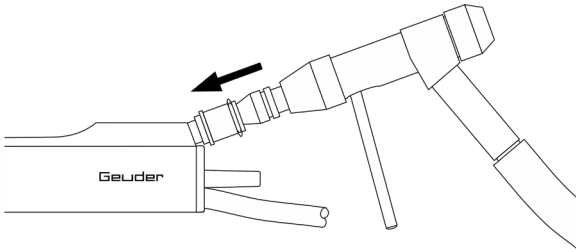

Fig. 7a
- Rinse the ultrasonic handpiece with a cleaning gun with a suitable flushing adapter or a single-use syringe (fig. 7a und 7b).